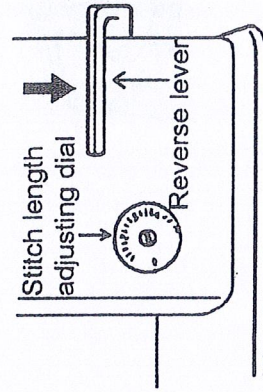

Fig. 4
8. Adjustment of stitch length and reverse sewing (Fig.4):